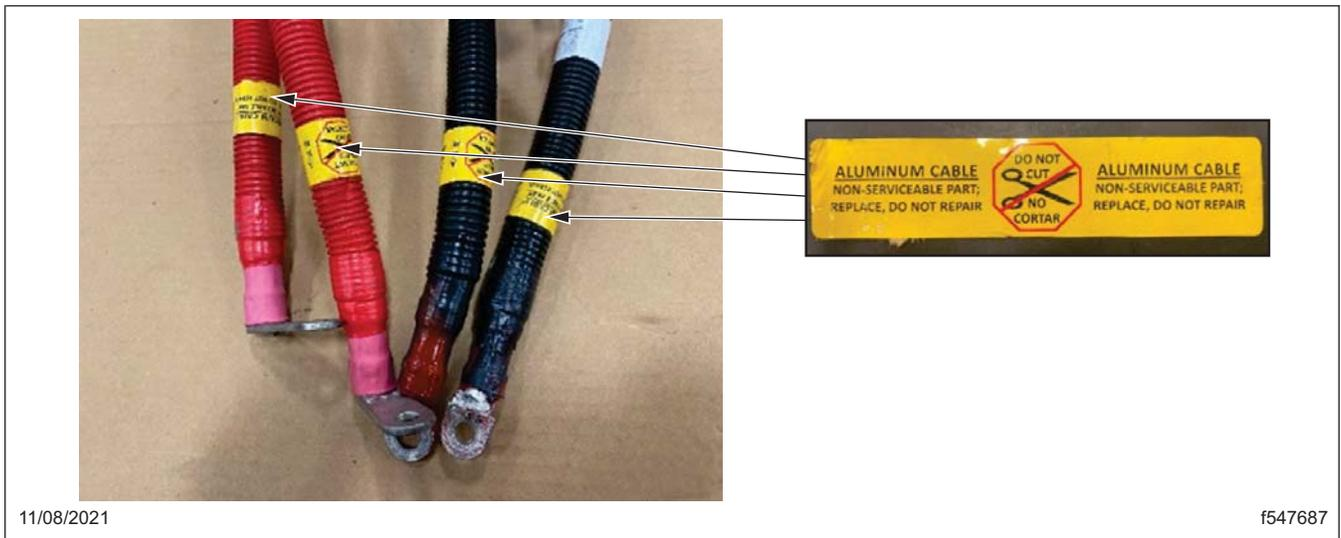

Fig. 23, Powernet Battery Cables Made of Aluminum
- The aluminum 4/0 cables are attached with a yellow label on each end indicating they are made of aluminum. See Fig. 23.